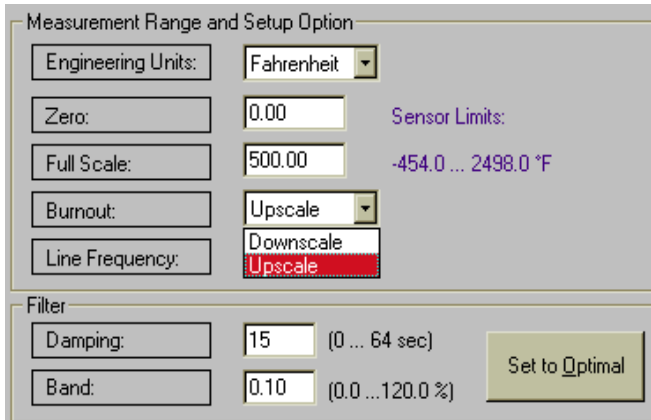

Figure 9.
9. TAB to the **“Burnout”** mode and select from the pull down menu either Upscale or Downscale. (See Figure 9)